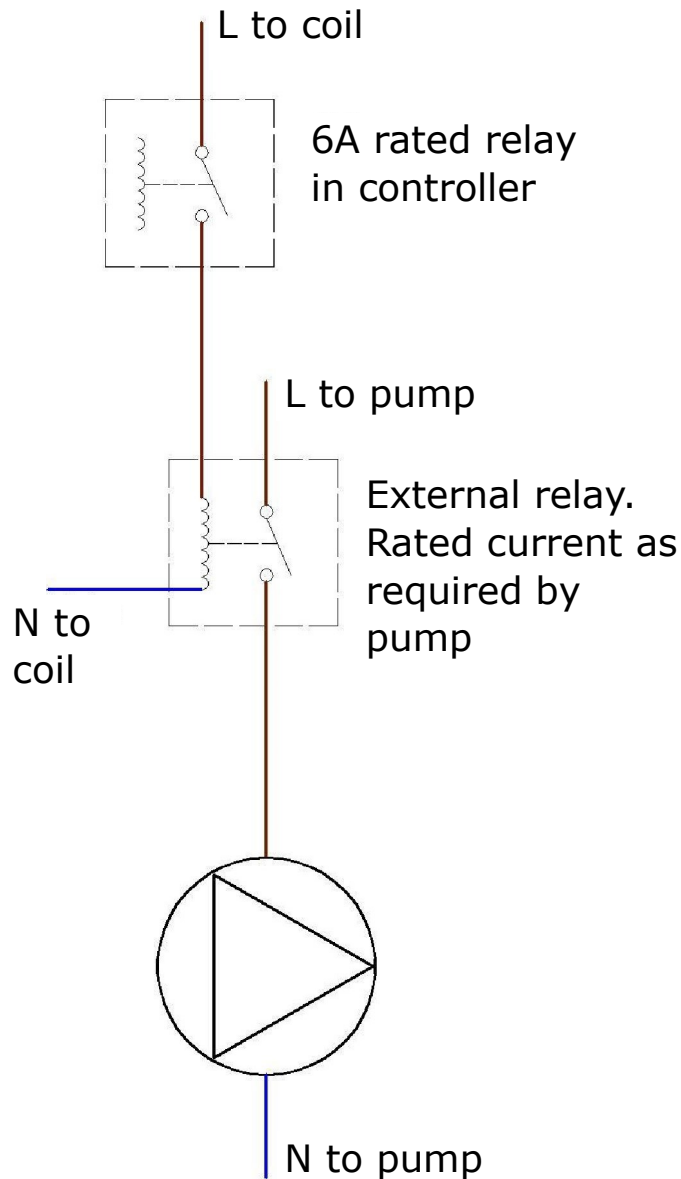

Fig.2 Diagram showing where a secondary external relay would be fitted.
2. Use a bigger rated relay. (A 60 Amp rated relay is a significant size and won't fit in a standard controller. It is possible to fit a secondary external relay that will protect the relay in the controller. This uses the smaller relay to switch the larger relay which carries the current. See Fig.2.).